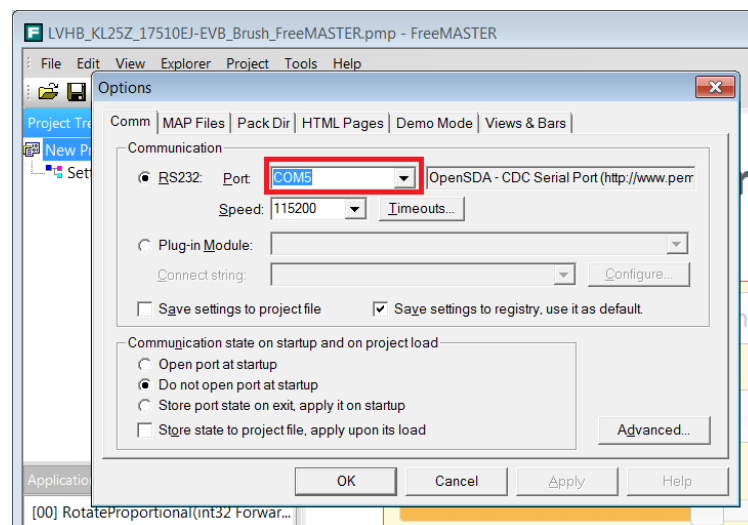

Figure 6. FreeMASTER settings
4. Check if the correct COM port is selected. Click **Project->Options**. Check if the number of the COM port in FreeMASTER corresponds to the number of COM port on your computer (see Figure 6). Also check if the communication speed corresponds to the UART communication speed implemented in the MCU firmware (115 200 bauds).